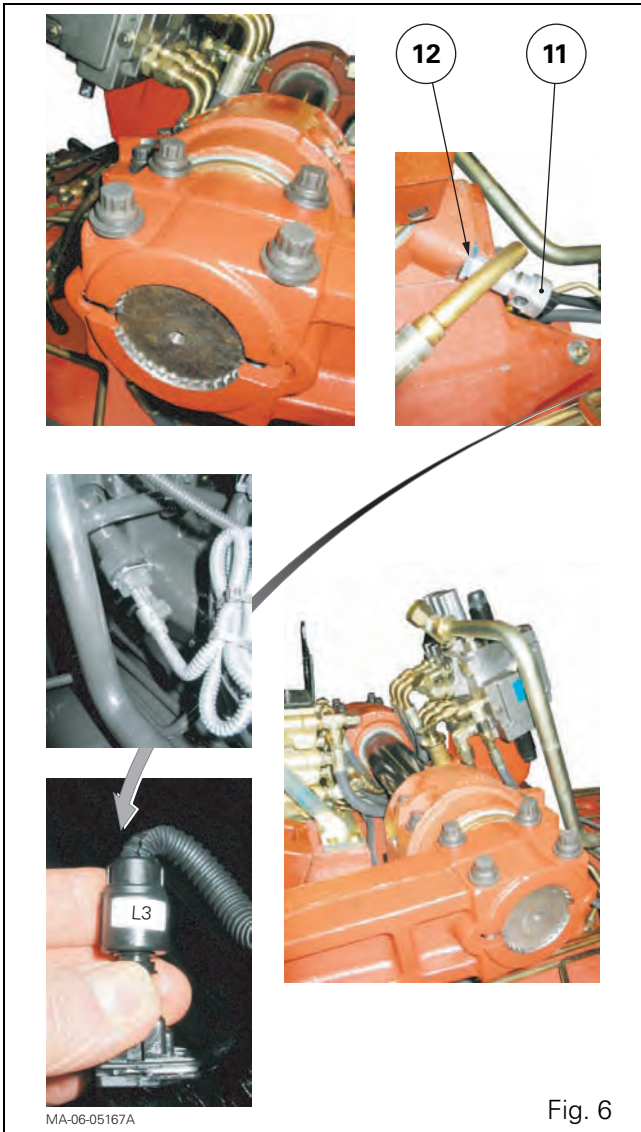
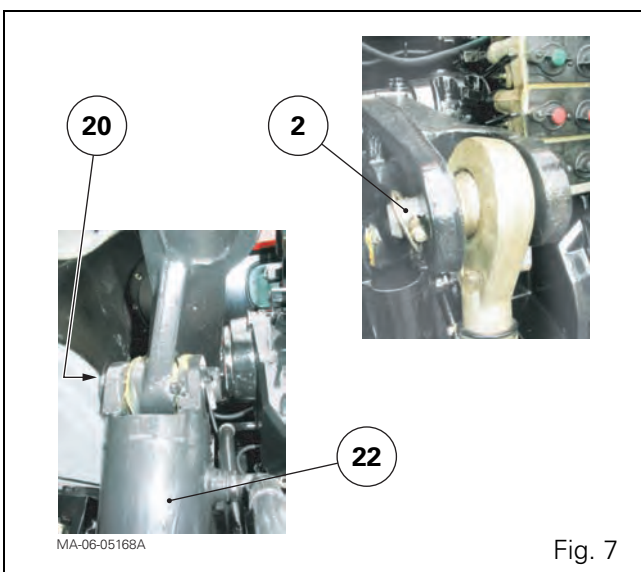

Fig. 6
Fig. 7
5. Disconnect the L3 connector (Fig. 6).
6. Loosen the position sensor (11) nut (12). Unscrew and remove the sensor.
7. Remove (Fig. 7):
- the pins (20) of the upper ram (22) ;
- the lift rod pins (2).